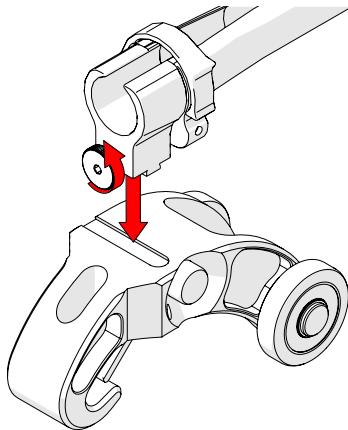

Fig. 75 - Loosen and slide on
1. Loosen the knob on the cable management dovetail mount. Position the mount onto the Dovetail QuickLink (Fig. 75).